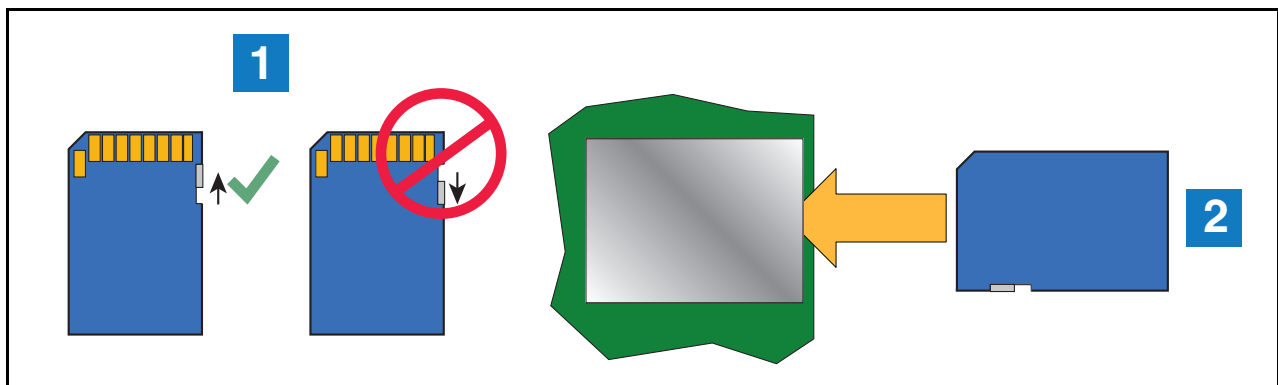

Figure 20. Installing SD Card
4. Press the outer edge of the SD card towards the interior of its enclosure and it should spring out so it can be removed. Remove the SD card from the old CPU board and check that the read/write-protect switch on the side of the card is in the position shown in (item 1 Figure 20). Insert the SD card into its enclosure on the new CPU board with the contact side facing the CPU board (item 2) and gently push the card into its enclosure until it clicks into the enclosure's latch.